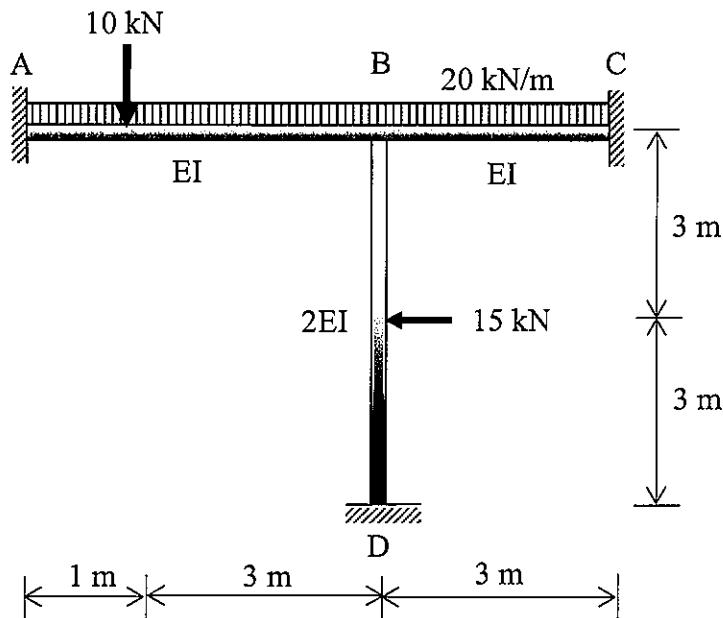

Figure B2(a) / Rajah B2(a)
- CLO1 (a) A statically indeterminate portal frame is loaded as shown in Figure B2(a). Identify the value of Fixed End Moment for each member.
- CLO1 (b) Indicate the slope deflection equation for each member that experiences the internal moments in Figure B2(a).